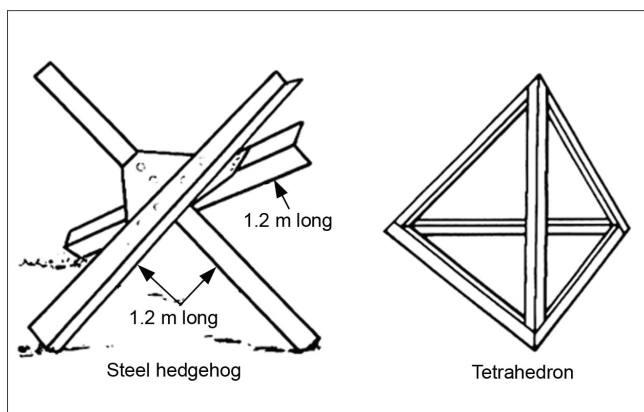

Figure 052-195-3066-7. Steel hedgehog and tetrahedron
- (1) Steel hedgehogs and tetrahedrons (figure 052-195-3066-7).